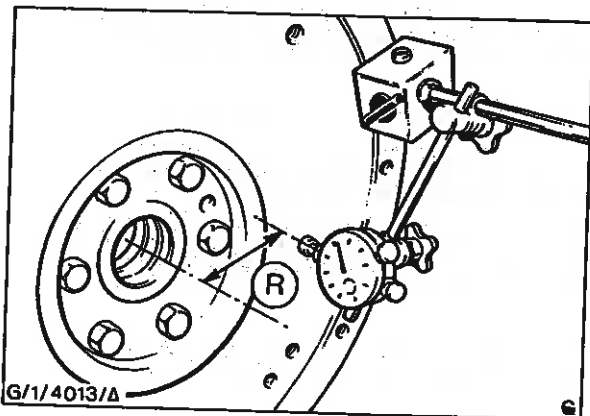

Fig. 72 - Checking Flywheel Run-Out
83. Using a dial gauge and magnetic base check that the flywheel run out is within the specified limits when measured at 140 mm (5,50 in) radius - see Fig. 72.